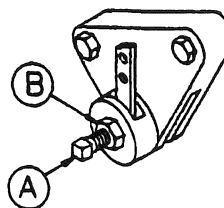

fig. 22A
- To adjust brake at caliper, loosen locking nut (Item B, fig. 22A). Turn adjusting screw (Item A, fig. 22A) in until brake is holding. Retighten locking nut (Item B, fig. 22A).